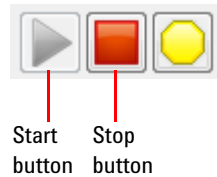

Figure 2-20 Start and stop buttons on the graphical interface
- 1 Select the start or stop button on the bottom left of the graphical interface to start or stop a continuous data acquisition of the waveform respectively as shown in Figure 2-20.